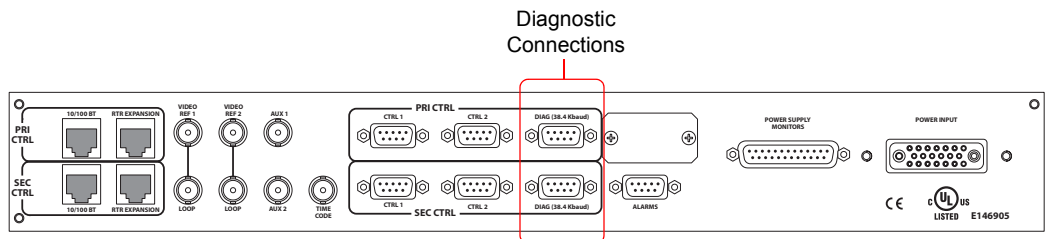

Figure 3-17. Diagnostic Connections (Rear View)
- 1 Locate the diagnostic connections on the rear of the router, as shown in Figure 3-17. The diagnostic connections are labeled 'DIAG'.